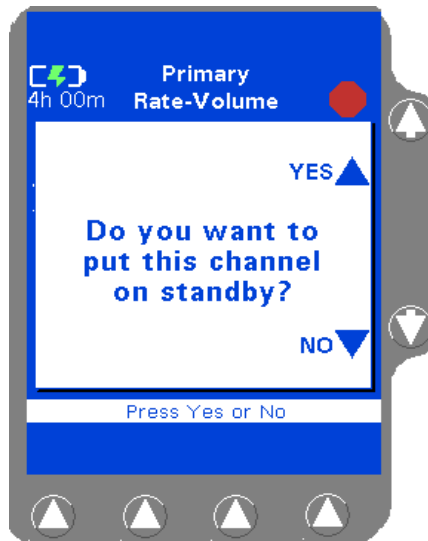

Figure 4-80 Standby Pop-up
4. Use the $\uparrow\downarrow$ keys to highlight **Standby**, then press the **Select** soft key. The Standby pop-up is displayed (Figure 4-80).